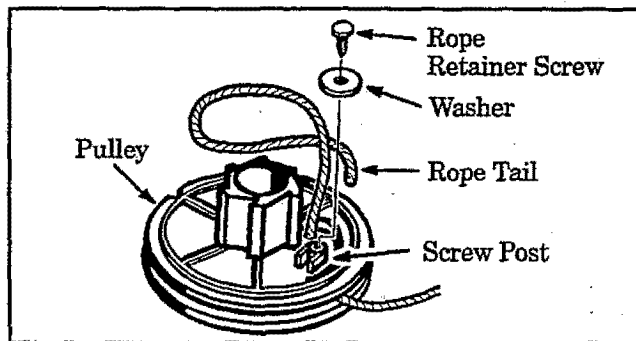
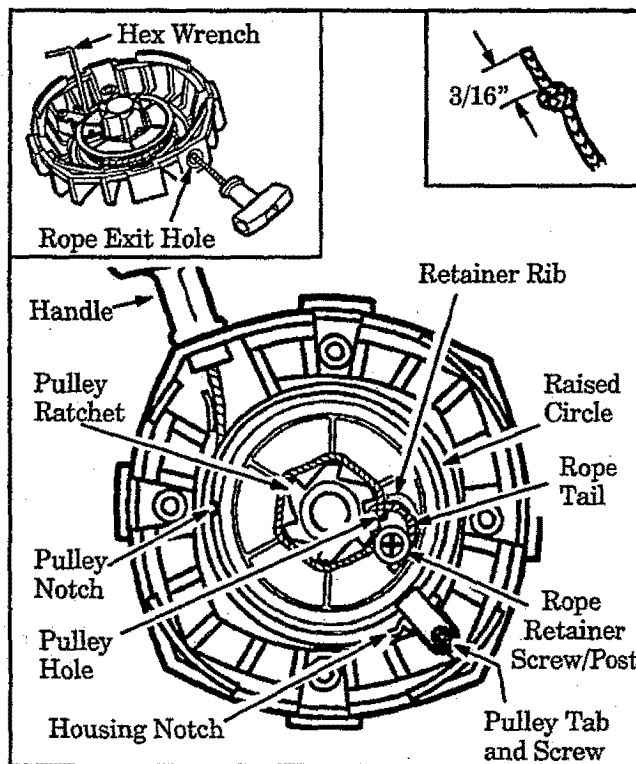

Figure 28
Figure 29
11. Remove the rope retainer screw. Figure 28 . Remove any remaining rope from around the pulley ratchet. Figure 29 .
12. Hold pulley housing as shown in Figure 29 (inset). Hand turn pulley clockwise as far as it will go.
13. Turn pulley counterclockwise until the pulley notch is aligned with the housing notch next to the pulley tab and screw. Figure 29 .
15. Insert the hex wrench into the hole formed by the notches to hold the pulley in position. Figure 29 (inset--upper left).
19. Insert one end of the rope through the handle and secure with a knot. Leave a 3/16" pigtail behind the knot. Figure 29 (inset--upper right).
20. Insert other end of the rope through the rope exit hole into the inside of the housing, into the pulley and up through the pulley hole. Figure 29 .
21. Wrap the rope counterclockwise around the pulley ratchet and tuck loose end under the rope at the pulley hole. Figures 28 & 29 . Leave a 1 inch tail laying flat on top of the pulley between the retainer rib and the retainer post. Figure 29 . The rope tail *must not* extend beyond the raised circle on the pulley to prevent interference with the pulley tab. Figure 29 .
22. Thread rope retainer screw into the screw post. Figure 29 . Do not overtighten screw.